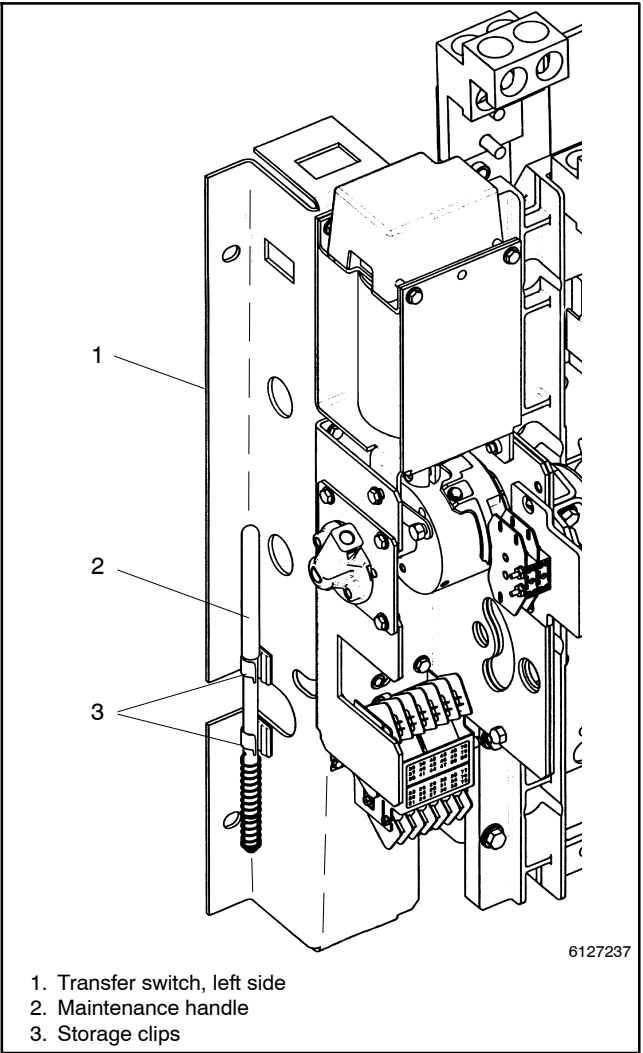

Figure 8-2 Maintenance Handle and Storage Clips
2. Install the maintenance handle. Locate and remove the maintenance handle from clips on the left side of the transfer switch frame. Insert the handle into the molded hub on the left side of the operator. See Figure 8-2, Figure 8-3, and Figure 8-4.